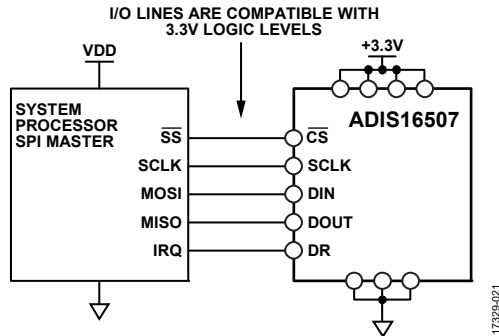

Figure 35. Electrical Connection Diagram
The SPI provides access to the user registers (see Table 9). Figure 35 shows the most common connections between the ADIS16507 and a SPI master device, which is often an embedded processor that has a SPI-compatible interface. In this example, the SPI master uses an interrupt service routine to collect data every time the data ready (DR) signal pulses.